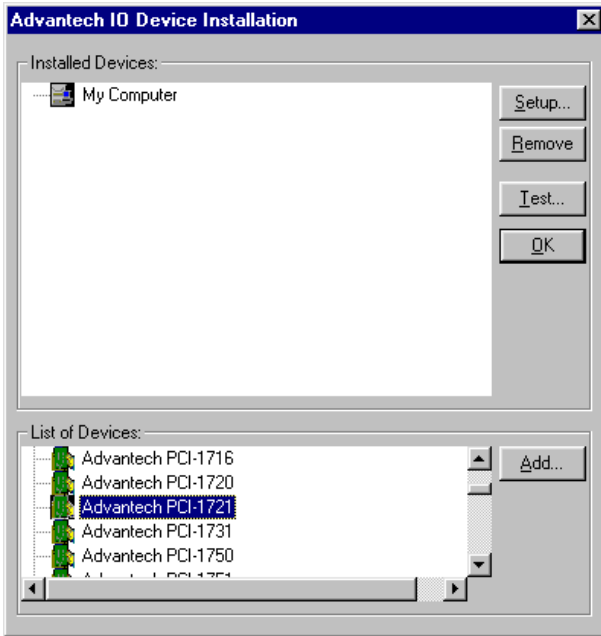

Fig. 2-8 The I/O Device Installation dialog box
**Step 2:** On the *Device Installation* program window, select the *Setup* menu item on the menu bar, and click the *Device* command (Fig. 2-7) to bring up the *I/O Device Installation* dialog box (Fig. 2-8). You can then view the device(s) already installed on your system (if any) on the *Installed Devices* list box. Since you haven't installed any device yet, you might see a blank list such as the one on the next page (Fig. 2-7).